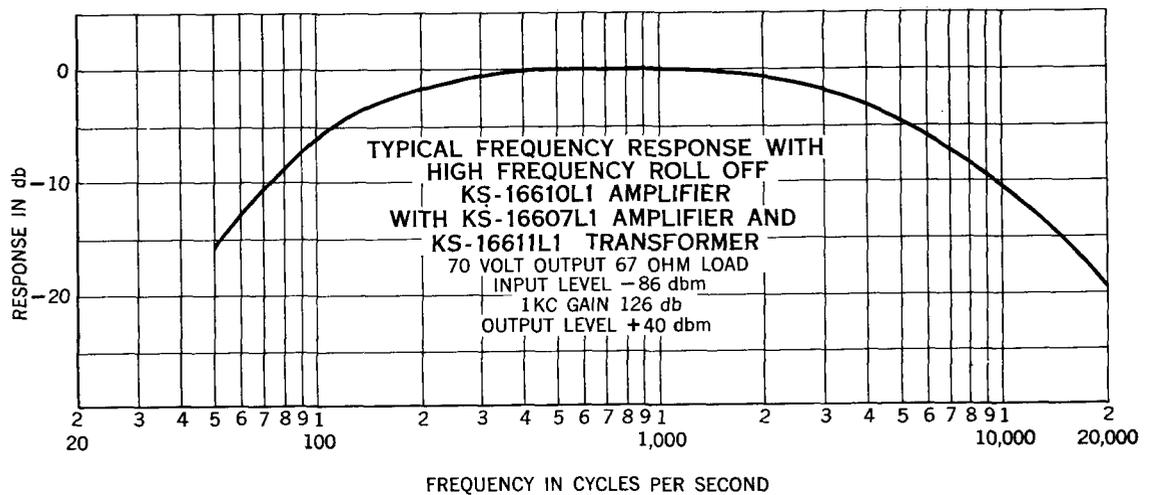

Fig. 9 - Response with High Frequency Roll-Off When Equipped with Preamp and Transformer
6.06 Fig. 9 shows the high frequency roll-off characteristics of the basic amplifier when it is equipped with a preamp and transformer.